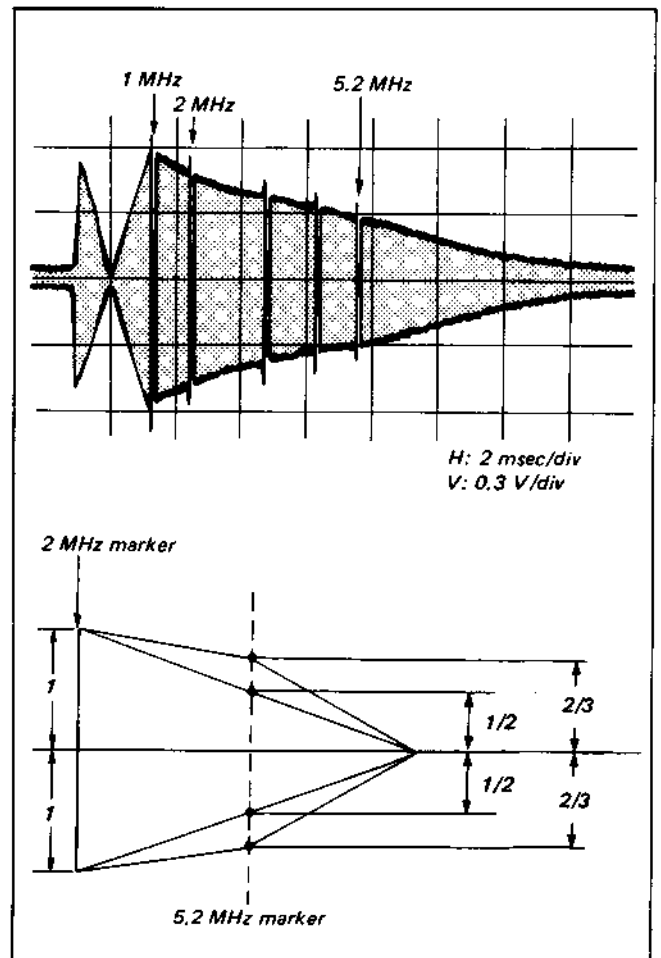

Fig. 5-16. Playback amplifier frequency characteristic adjustment
- ii) Adjust RV503 to make the 2MHz amplitude of A and B channels equal. (See Fig. 5-16)